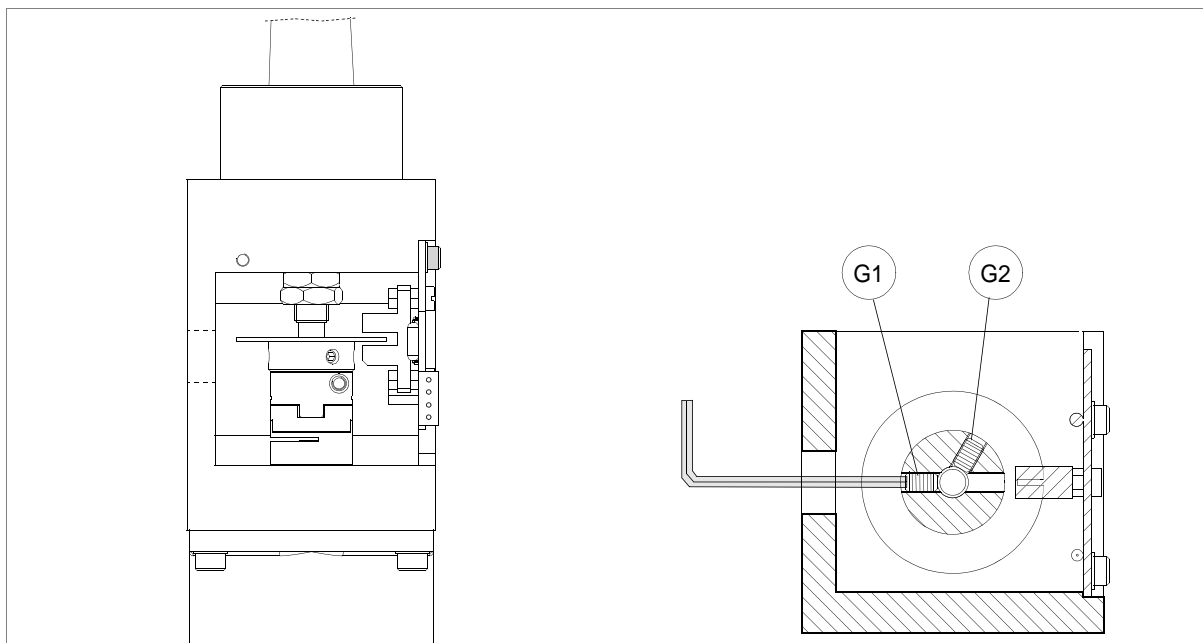

Fig. 117
- 3) loosen the (G1) and (G2) grub screws that secure the X axis photocell disk (fig. 117).
- manually turn the X axis disk (fig. 117, page 89) up until the display's description changes from OFF to ON.
- use the provided allen key to tighten the (G1) grub screw (fig. 117).